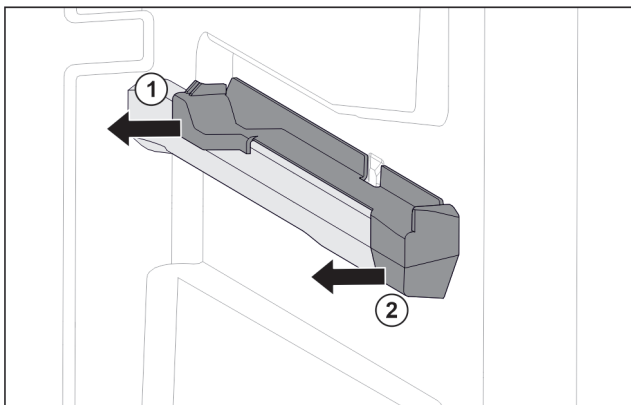

Fig. 26 Attachment on the right moulded rib
- ▶ Pull off attachment at the back sideways. Fig. 26 (1)
- ▶ Pull off attachment at the front sideways. Fig. 26 (2)